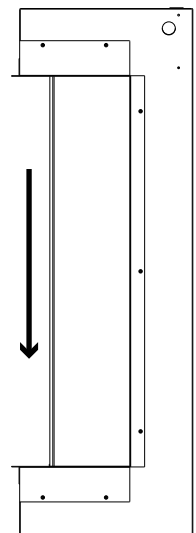

Figure 2.2
4. Slide the glass down in to the bottom channel. See Figure 2.2.